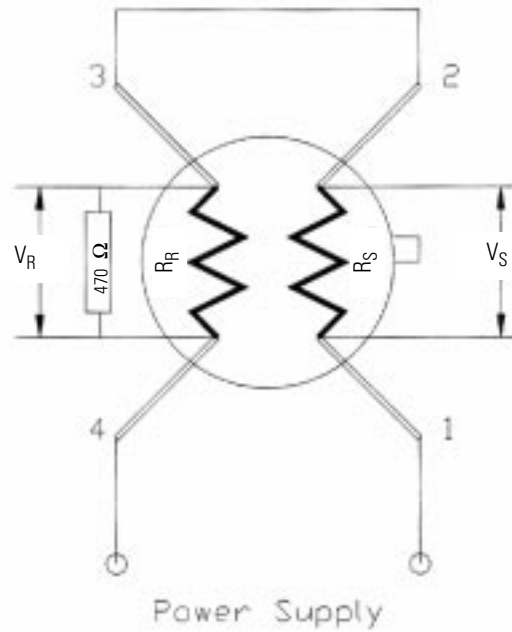
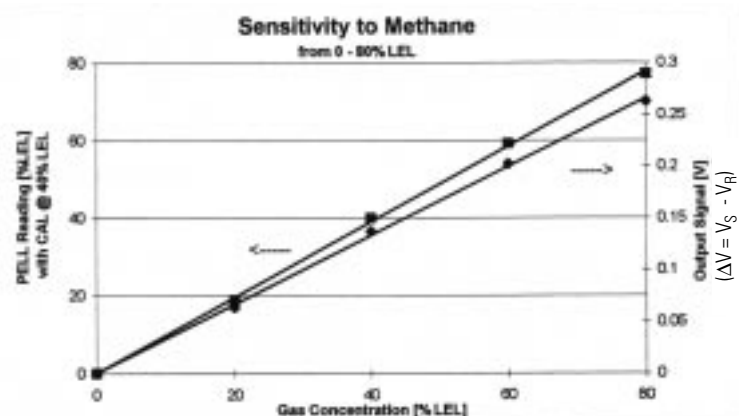

Figure 3: Test circuit
Figure 4: Sensor output signal
■ A constant current is applied to the series network of the sensitive resistance, R_S (pins 1&2) and the reference resistance, R_R (pins 3&4), see Figure 3. In the presence of CH_4 , the voltage across R_S increases, R_R is unaffected. This results in an electrical unbalance in the measurement circuit and the output signal is proportional with the methane concentration, see Figure 4.
A trimming resistor is connected in the circuit as shown in Figure 3.